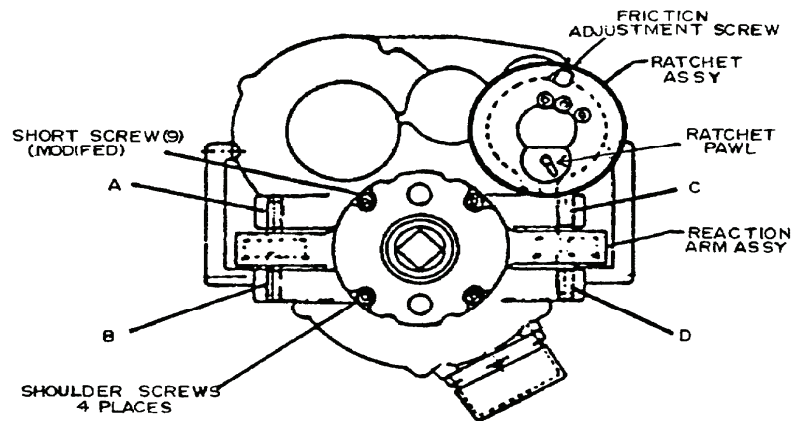

Figure 4. Torque wrench - adjustment locations.
(1) Check friction brake by carefully applying torque in small increments and ensuring that friction brake holds up to 1200 ft-lbs. If friction brake does not hold, tighten FRICTION ADJUSTMENT SCREW (fig. 4) to increase friction. Do not over-tighten because the friction brake must be overcome to back off torque that has been applied. Maximum torque needed to overcome brake should not exceed 75 ft-lbs.
Two ratchets are used on this TI, one on the torque wrench and one on the T-handle. Operation of the T-handle ratchet is obvious. The torque wrench ratchet operates in conjunction with the friction brake. The RATCHET PAWL (fig. 4) is labeled nut-on for cw torque and nut-off for ccw torque.
Do not attempt to reverse the RATCHET PAWL (fig. 4) with torque applied. When torque is applied cw with RATCHET PAWL (fig. 4) in nut-on position, the T-handle must be turned ccw against resistance of the friction brake to release the applied torque.
- (4) Check cw and ccw balance of TI as follows:
- (a) Set RATCHET PAWL (fig. 4) to nut-on position.
- (i) Turn T-handle ccw to obtain a 500 ft-lb indication on TI indicator. Record indication of force/torque indicator. If indication is not within 5 ft-lbs of indication recorded in (b) above, perform **b** (1) through (3) below.
- (5) Turn T-handle cw to release applied torque.
- (6) Press the **F4** key on the force/torque indicator until you see the   soft keys. Press the   soft keys as necessary to select the torque cell for the TI range and direction being calibrated. Insure the serial number matches the torque cell being used.
(1) Remove sealant from adjustment screws A and B (fig. 4). Screws C and D (fig .4) should not need adjustment unless TI is disassembled for repair or overhaul.
(2) Adjust screws A and B (fig. 4) slightly by backing one out and advancing the other one-quarter turn at a time.
(3) Repeat (2) above and continue adjustment in small increments until indications are within tolerance. When correctly adjusted, screws A, B, C, and D (fig. 4) should be just touching bellows assemblies (R).
(4) Remove rubber indicator protective cover.
(5) Remove lens retaining ring and lens from TI indicator.
(6) Turn T-handle to obtain a 500 ft-lb indication on force/torque indicator. Slip dial face to align pointer with 500 ft-lb graduation on dial face (R).
(7) Turn T-handle to relieve all applied torque from TI. Indicator must indicate within green band at 0.
(8) Install lens, retaining ring, and protective cover.
(9) Repeat **a** (3) through (5) above. If TI indications are not within tolerance, repeat **b** (2) through (8) above.
(10) Reseal adjustment screws with silicon rubber sealer.